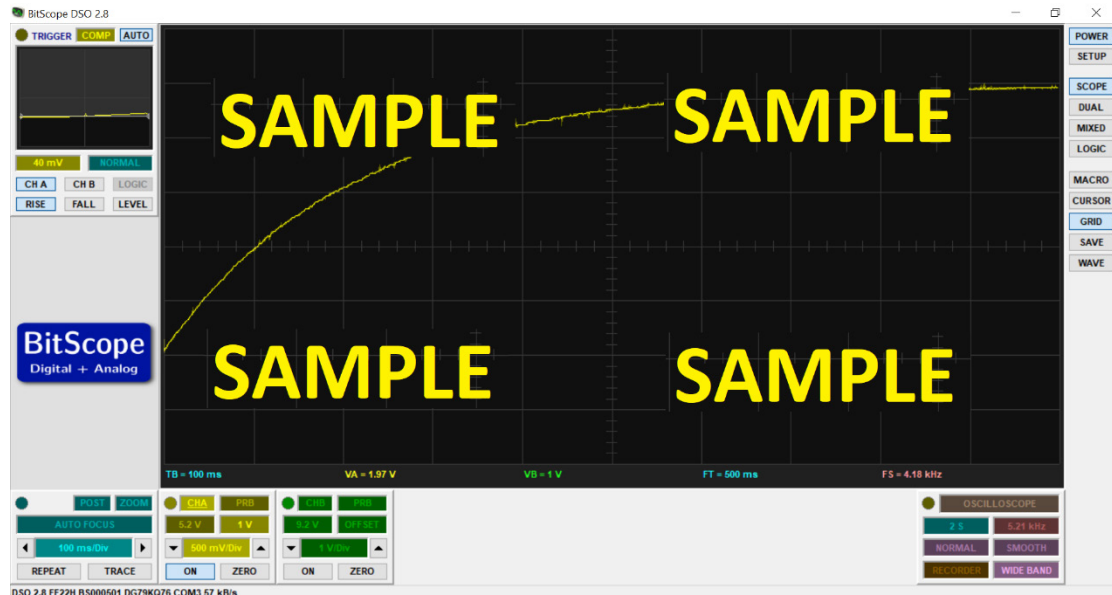

Figure 4: Sample waveform captured by BitScope.
9. In the “Timebase Control (6)” panel, set the timescale to **100 ms/Div**. Click on “REPEAT” to deactivate repetitive capture, because we will be doing a one-time waveform capture. In the “Channel Controls (7)” panel, for Channel A (i.e., CHA), set the **voltage per division** to **500 mV/Div**. Right-click on the offset entry (i.e., the box below “PRB”), select “REF”. It should show “0 V” for now. Left click on the “0 V”, and drag your mouse cursor down until the voltage offset becomes “**1 V**”. The purpose is to lower the 0 V line downwards by 1 V so that the capacitor’s voltage won’t be clipped off at the top of the screen later.
10. Next, we shall adjust the trigger setting inside the “Trigger Controls (4)” panel. Left-click on the trigger voltage level (the yellow box inside the panel that shows a voltage), and drag your mouse slightly to change the value to anything between **40 mV** and **60 mV**. This sets the voltage level at which your BitScope will be triggered to capture the waveform.
holding the “+” wire of the USB breakout cable, use the other hand to left-click on the “TRACE” button in the “Timebase Control (6)” panel. Immediately after, plug the “+” wire into your breadboard circuit to power up the capacitor charging circuit you have constructed in Step 7. If you have performed everything correctly, your BitScope DSO should have captured a single waveform, similar to the example shown in Figure 4. If you did not manage to capture the waveform correctly, remove the “+” wire from the circuit, wait for a few seconds for the capacitor to discharge, and repeat Step 11.